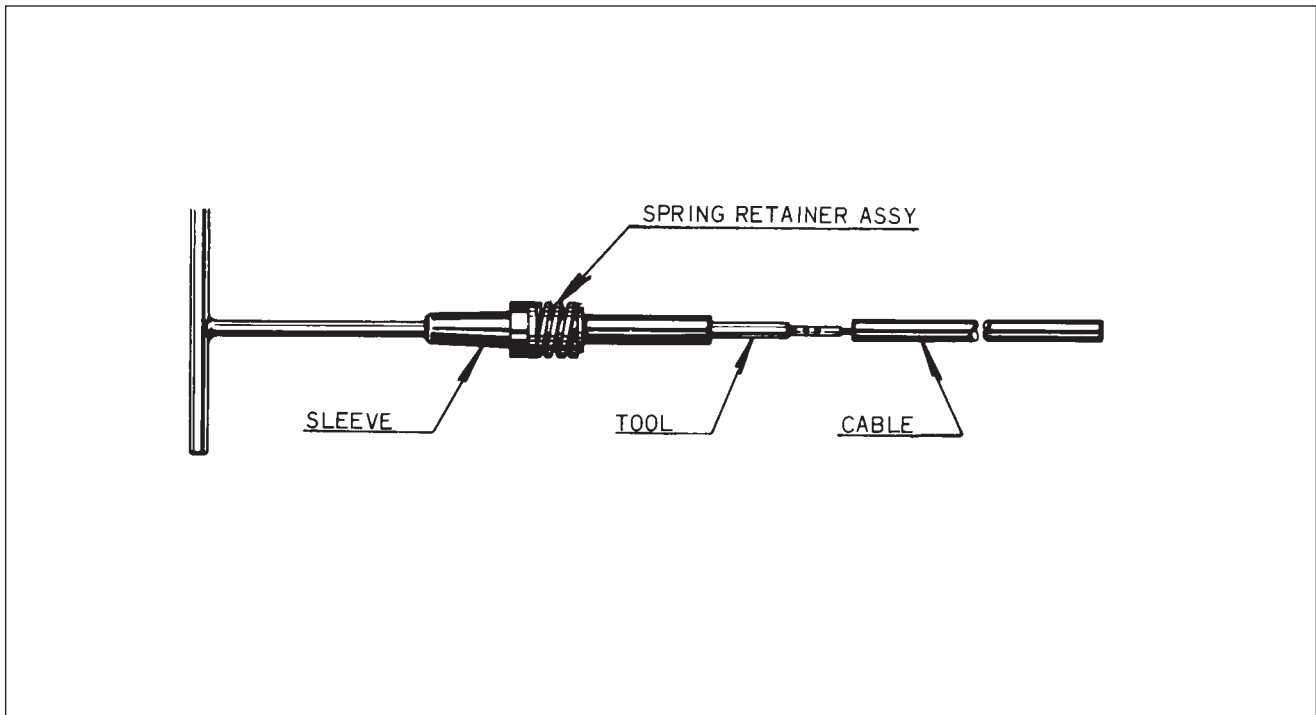

Figure 74-33. Using Assembly Tool
- (2) Push the tool through insulating sleeve and spring retainer assembly as shown in Figure 74-33. Screw the cable terminal into the tool.
- (3) Work insulating sleeve and spring retainer assembly into position over the cable and unscrew the tool. Install contact spring on cable terminal.